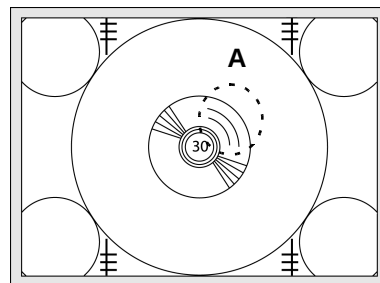

Figure 32. Focus Adjustment
2. Confirm a correct focus at the center, then try to adjust "A" in Fig. 32